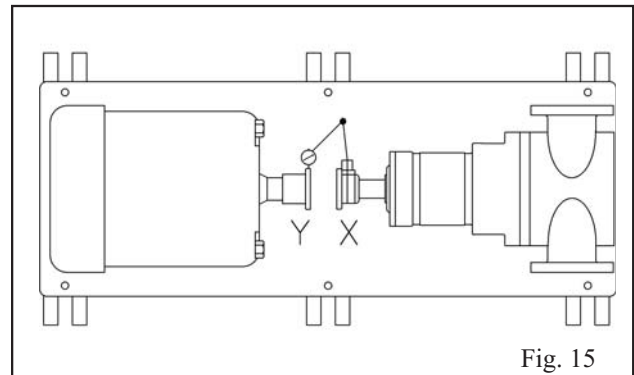

Fig. 15
3. **Negative Reading** - Coupling half Y is to the left of coupling half X. Correct by sliding driver evenly in the appropriate direction (Fig. 15).